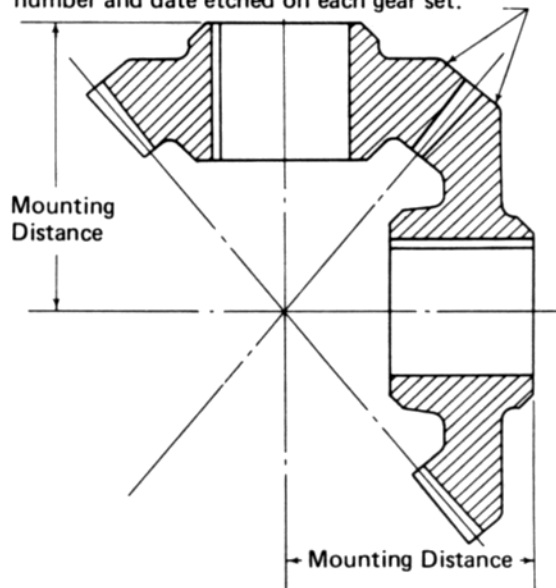

Fig. 11 – Gear Mounting Distances
NOTE: If anything is done to interfere with the gear mounting distance, the adjustment shim sets, (46) or (58) Fig. 2, may require changing to maintain the gear backlash within limits. Mounting distance of the gears is shown in Fig. 11, and is the distance from the mounting base surface of the gears to the apex of projected lines drawn through the pitch diameter of the gear teeth. It is held within limits attained at the time the gear set is originally hobbled and ground. The mounting distance is etched on each gear, as indicated in Fig. 11, along with the backlash, serial number, part number, and date of grinding.
NOTE: If anything is done to interfere with the gear mounting distance, the adjustment shim set, (28) Fig. 3, may require changing to maintain the gear backlash within limits. Mounting distance of the gears is shown in Fig. 11, and is the distance from the mounting base surface of the gears to the apex of projected lines drawn through the pitch diameter of the gear teeth. It is held within limits attained at the time the gear set is originally hobbled and ground. The mounting distance is etched on each gear, as indicated in Fig. 11, along with the backlash, serial number, part number, and date of grinding.